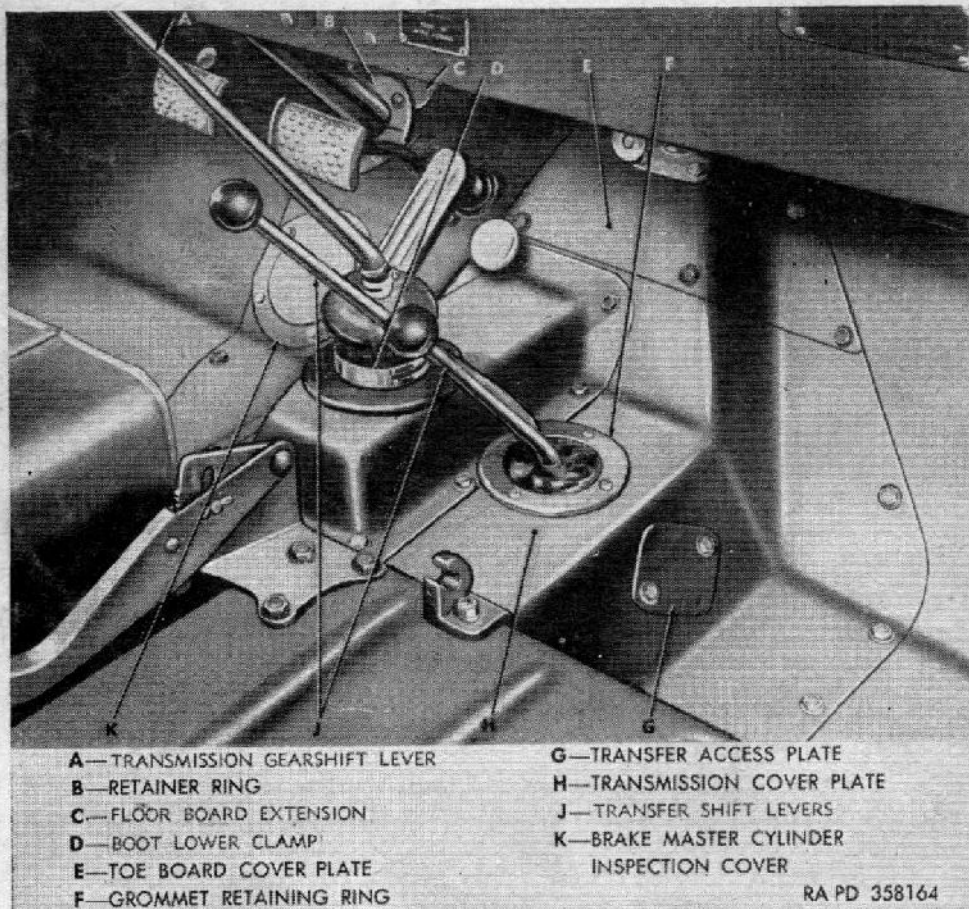

Figure 37. Disconnect points in passenger compartment with cover plates installed.
### *5. Operations Inside Passenger Compartment (fig. 37).*
- (6) Insert engine stay cable in stay cable bracket (H) on frame cross member and tighten engine stay cable adjusting nut and secure with lock nut.
- d. *Operations Inside Passenger Compartment* (fig. 37).
- (2) Position the transmission cover plate (H, fig. 37) in vehicle, and install and tighten cap screws.
- (3) Position toe board cover plate (E) and floor board extension (C) in vehicle and secure with cap screws.